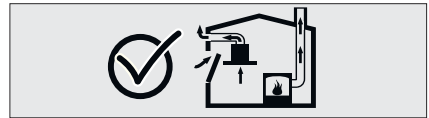

Fig. 6
- Therefore, adequate fresh air ingress must always be ensured. Fig. 6